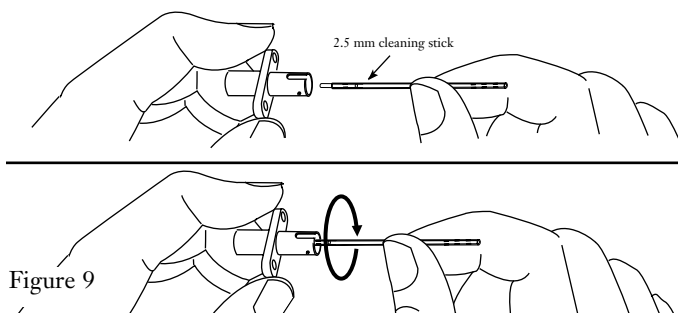

Figure 9
5.1 To clean a connector port (Figure 9):